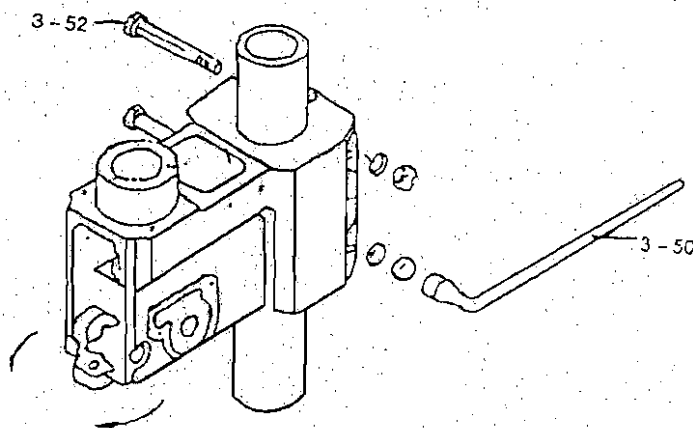

Fig . 2
(3) Adjustment of Head
- (a) To raise and lower the head, loosen the two bolts(3-52)shown in Fig.2. Use the left side head handle(3-50)to raise and lower the head on its rack and pinion mechanism. When the desired height is reached, tighten the bolts to avoid